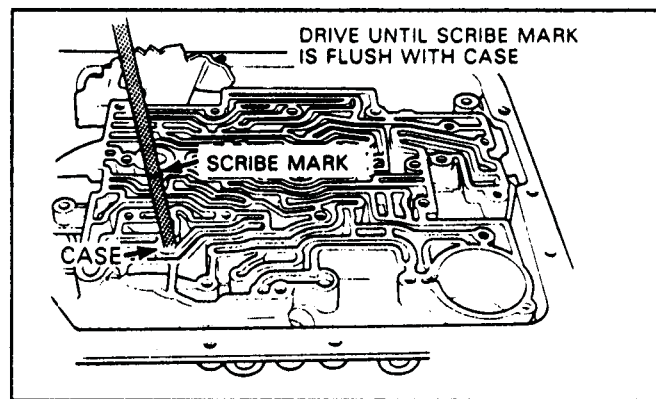

Figure 60
2. Install the new capsule assembly using a 3/8" diameter metal rod shown in Figure 60.
4. Depth from case should be Approx. 1.653" (See Figure 60).